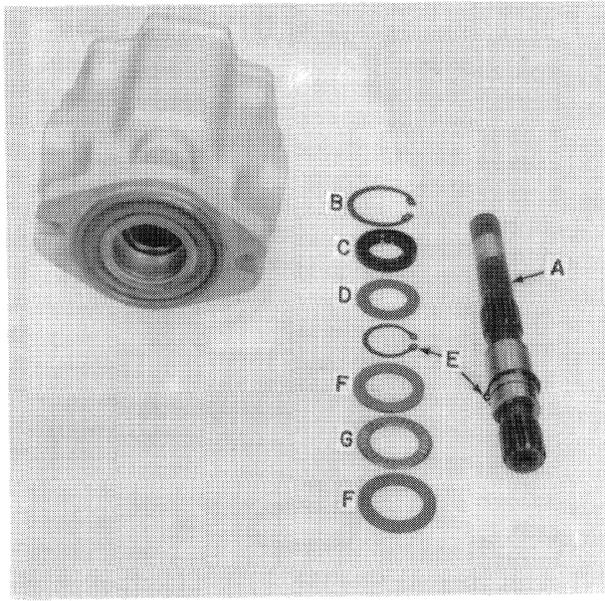

FIGURE 4-6
8. To remove the pump shaft, A, Figure 4-6:
- a. Remove the large snap ring, B, Figure 4-6.
- c. The shaft and related parts are shown in Figure 4-6.